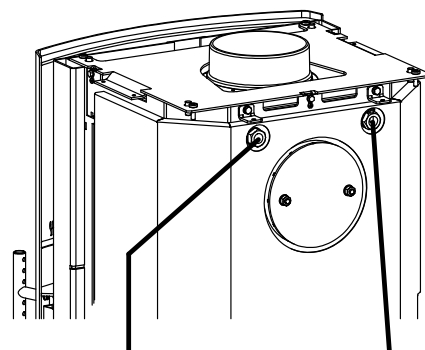

Fig. 3 Sensor pocket for TAS      Sensor pocket for temperature sensor „Temperature Difference“
- Slide the temperature sensor of the "Temperature Difference Controller" into the right-hand sensor pocket and secure it using the threaded screw (Fig. 3).